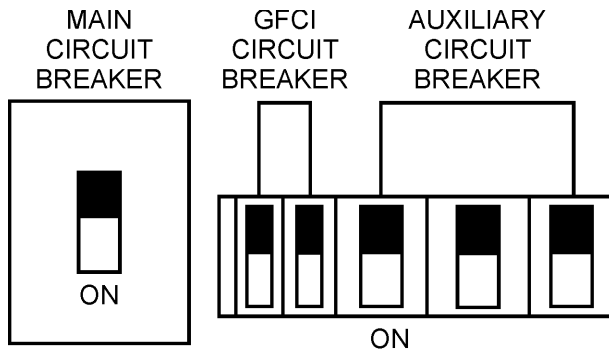

Figure 38. Main, Aux. and GFCI Circuit Breakers (ON)
15. Place the **main, GFCI, and aux.** circuit breakers in the **ON** position (Figure 38).